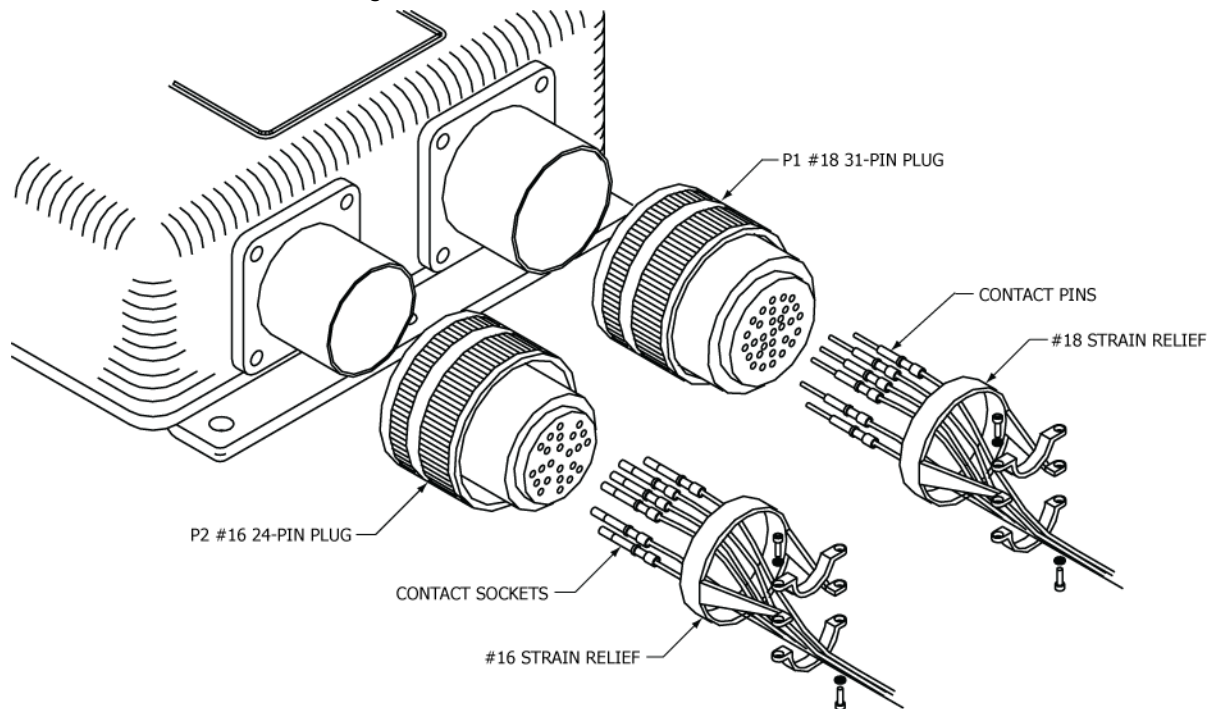

Figure 10 ELT/NAV Interface -B Wiring Installation
- 11) Feed the interface wires at the ELT/NAV Interface -B end through the 183-6503 strain relief. See Figure 10 ELT/NAV Interface -B Wiring Installation.
- 10) Install the 183-6502 strain relief on the plug and tighten the wire clamp. See Figure 10 ELT/NAV Interface -B Wiring Installation on page 42.
- 6) Feed the wires through strain relief 183-6502. See Figure 10 ELT/NAV Interface -B Wiring Installation on page 42.